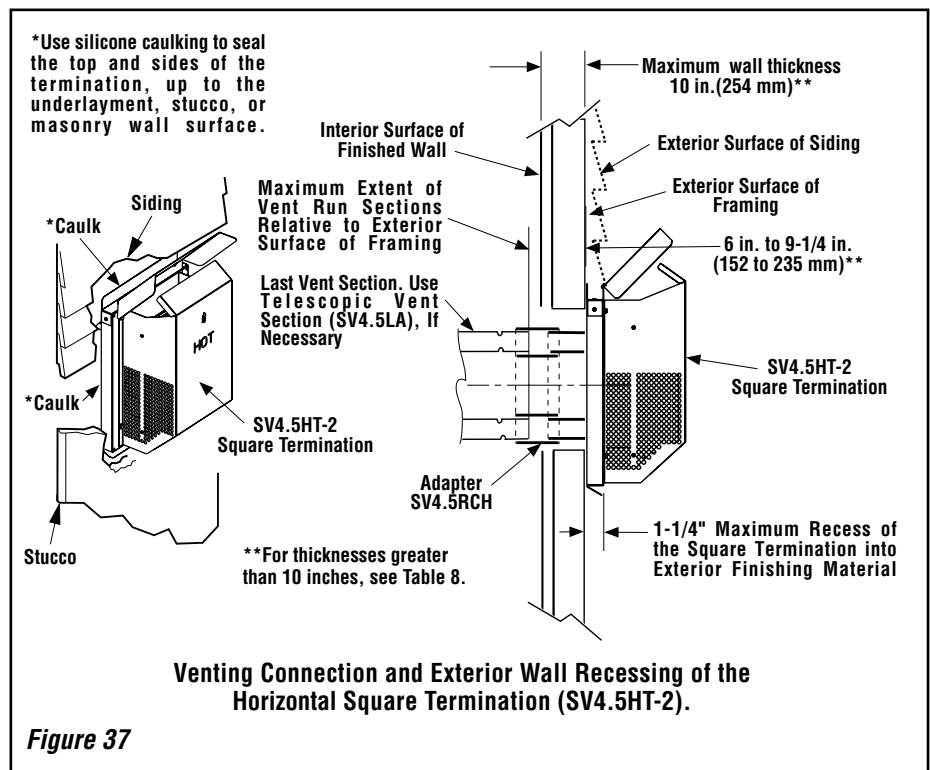

Figure 37
J. Assemble vent run to exterior wall - If not previously measured, locate the center of the vent at the exterior wall. Prepare an opening as described in **Step B**. Assemble the vent system to point where the terminus of the last section is within 7 in. (178 mm) to 11-1/4 in. (286 mm) inboard of the exterior surface to which the SV4.5 HT termination is to be attached, see **Figure 37**. If the terminus of the last section is not within this distance, use the **telescopic vent section SV4.5LA**, as the last vent section. For wall thicknesses greater than that shown in **Figure 37**, refer to **Table 8 on page 21**. This table lists the additional venting components needed (in addition to the termination and adapter) for a particular range of wall thicknesses.
1. Install the square termination (SV4.5HT-2 or SV4.5HTSS)- For the last step, from outside the exterior wall, slide the collars of the termination onto the adapter (the outer over the outer and the inner inside the inner) until the termination seats against the exterior wall surface to which it will be attached. Orient the housing of the termination with the arrow pointed upwards. Secure the termination to the exterior wall. **The horizontal termination must not be recessed into the exterior wall or siding** by more than the 1-1/4" (32 mm) as shown in **Figure 37**.
Table 8 Note: See Figure 37 showing wall thickness range when using SV4.5HT-2 termination kit.